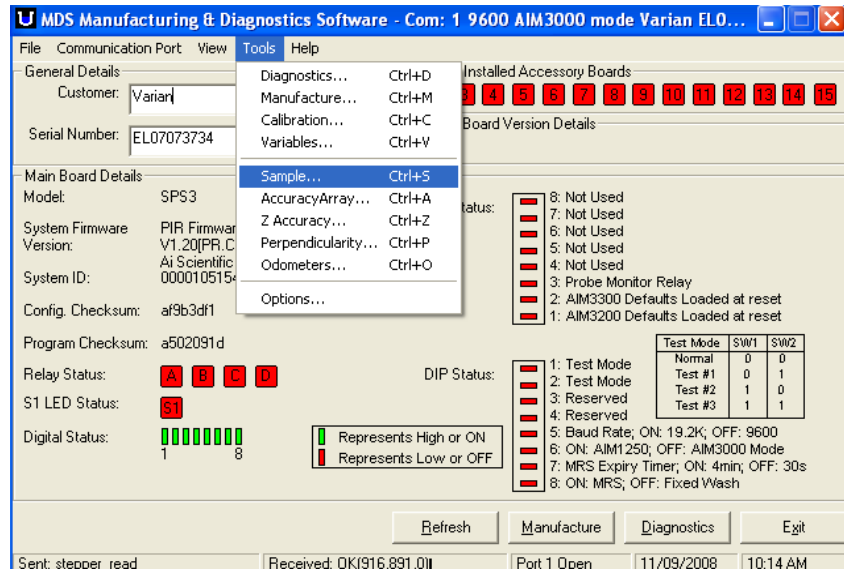
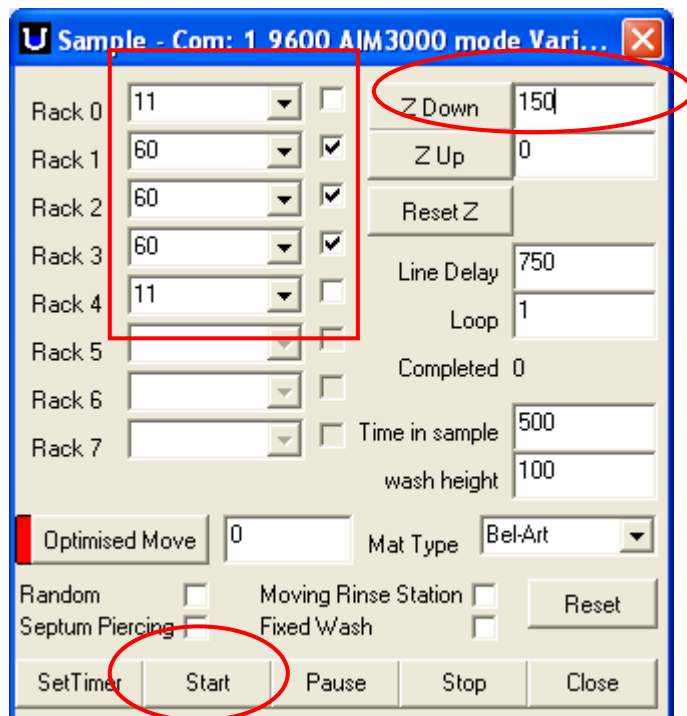

Figure 56. Main Page of the software
Figure 57. Fraction Collector Rack Configuration
1. Select the Tools option from the pull down menu and click on Sample (Figure 56). This will open the window in Figure 57 where you can choose which racks the fraction collector has and the rack size.
3. Select a Z down (Figure 57) value so that you can easily see if the probe is going into the sample collection tube properly. I usually pick a value of about 150. Once you are happy with the setup, click on the Start button and the probe will move through all the positions for the number of racks you have selected.